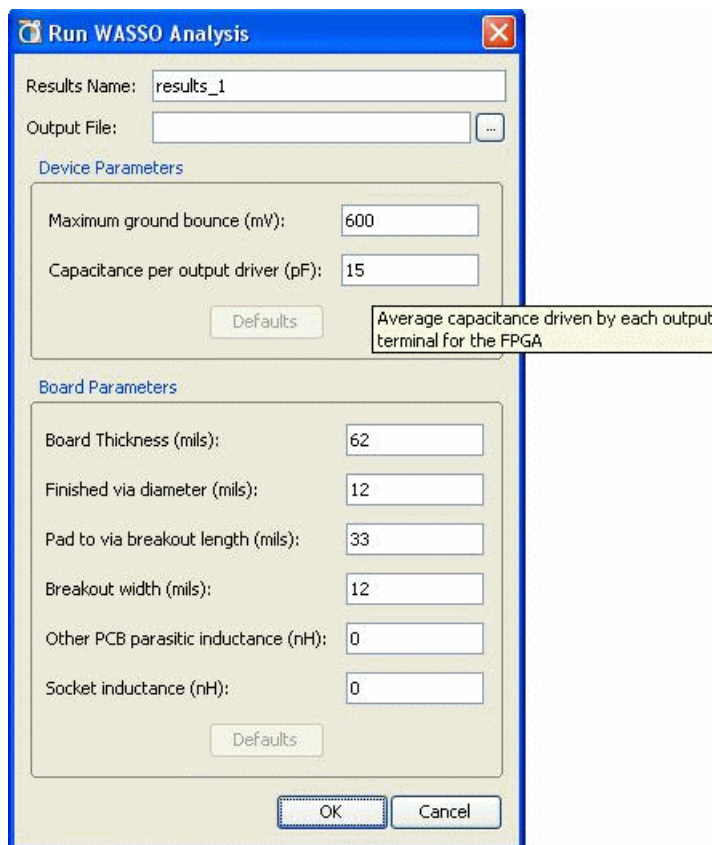

Figure 8-37: Run WASSO Analysis Dialog Box
1. To run a WASSO analysis, select **Run Noise Analysis** from either the Flow Navigator or from the Tools menu. The **Run WASSO Analysis** dialog box opens, as shown in Figure 8-37, page 304.